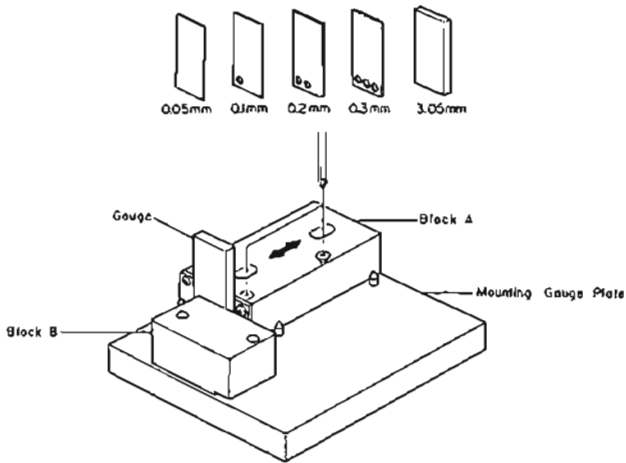
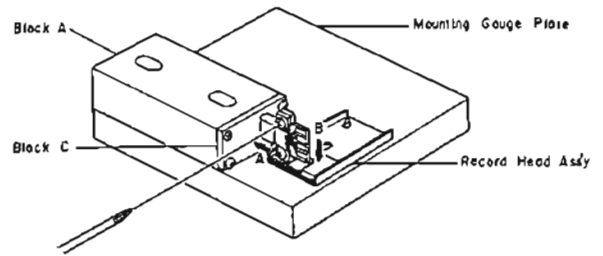

Fig. 2.18
Fig. 2.19
Refer to Figs. 2.18 and 2.19.
- (1) Check the accuracy of the record head stroke.
- (2) Remove Head Mount Base Assy.
- (3) Remove the record head assembly.
- (4) Adjustment of Record Head Mounting Gauge M-9048 (DA0-9048B)
- (c) As shown in Fig. 2.18, hold the Gauges (3.05 mm and 0.1 mm thickness) between the Block A and Block B, and fix the Block A with screws, pushing the Block A to the 2 guide pins.
- (5) Remove the Block B from the Mounting Gauge Plate.
- (6) As shown in Fig. 2.19, mount the record head assembly onto the Mounting Gauge Plate, then check the location of the record head surface. (If record head touches the Block C, loosen 2 pcs. of screws that assemble record head and record head plate, then place the record head assembly onto the Plate.)
- (7) Remove the record head assembly from the Mounting Gauge Plate.
- (8) Readjustment of Record Head Mounting Gauge M-9048 (DA09048B)
- (c) As shown in Fig. 2.18, hold the Gauges (3.05 mm and either one of 0.05, 0.15, 0.2, 0.25, 0.3 or 0.35 mm thickness) between the Block A and Block B, and fix the Block A with screws, pushing the Block A to the 2 guide pins.
- (9) Remove the Block B from the Mounting Gauge Plate.
- (10) Mount the record head assembly onto the Mounting Gauge Plate.
- (11) As shown in Fig. 2.19, loosen 2 pcs. of screws that assemble record head and record head plate. As the location of the Block A is secured by the item (8)-(c), push the record head to the directions A and B, then tighten 2 pcs. of screws.
- (12) Check to insure freedom from gap between the Block C and record head surface, then tighten the 2 pcs. of screws on the record head assembly with lock tight paint.
- (13) Remove the record head assembly from the Mounting Gauge Plate.
- (14) Assemble the record head assembly to the head mount base assembly.
- (15) Assemble the head mount base assembly to the mechanism assembly.
- (16) Check the record head stroke. If the above are inaccurate, items (1) through (16) will have to be repeated till satisfactory results are obtained.